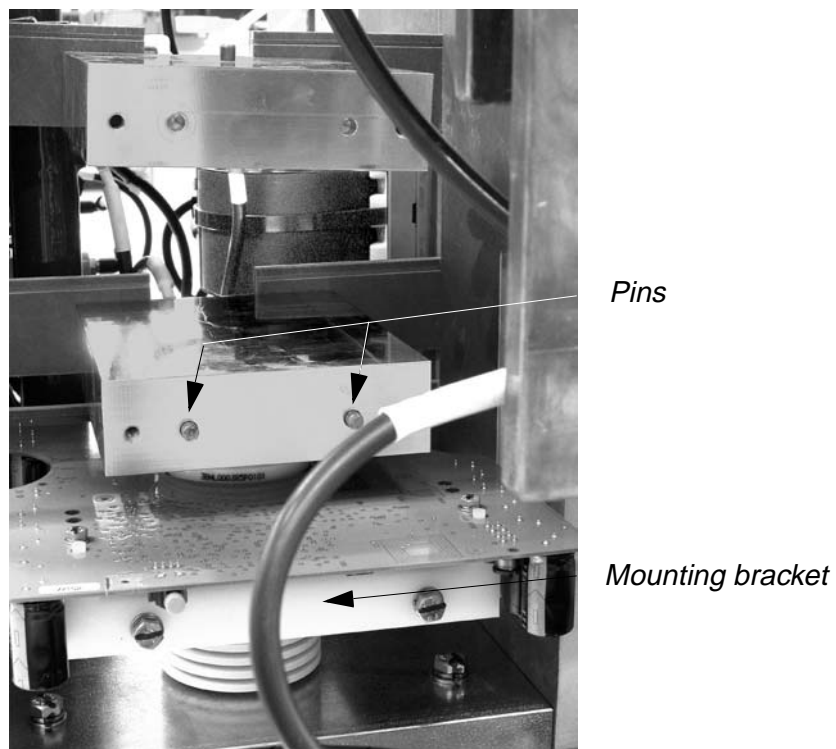

Figure 11-5 IGCT Removed
- 1 In case the new IGCT is not fitted with a mounting bracket (see *Figure 11-5*) remove this part from the faulty IGCT and mount it on the new IGCT.
The two pins on the cooler must insert properly into the holes of the mounting bracket of the IGCT (see *Figure 11-5*).